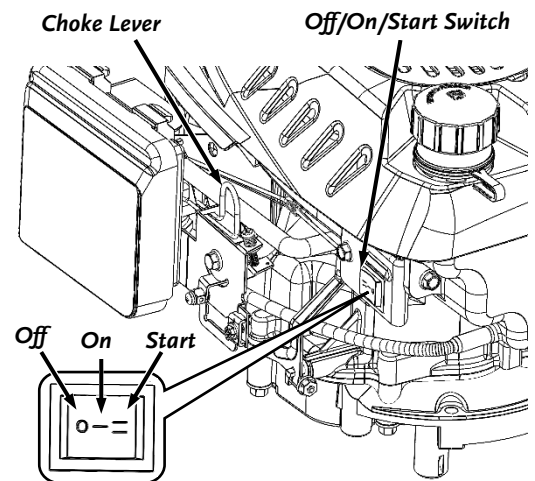

Figure 9
- 1) Press the Engine Off/On/Start switch to the “On” position (**Figure 9**).
- 2) Press the Engine Off/On/Start switch to the “Off” position (**Figure 9**).